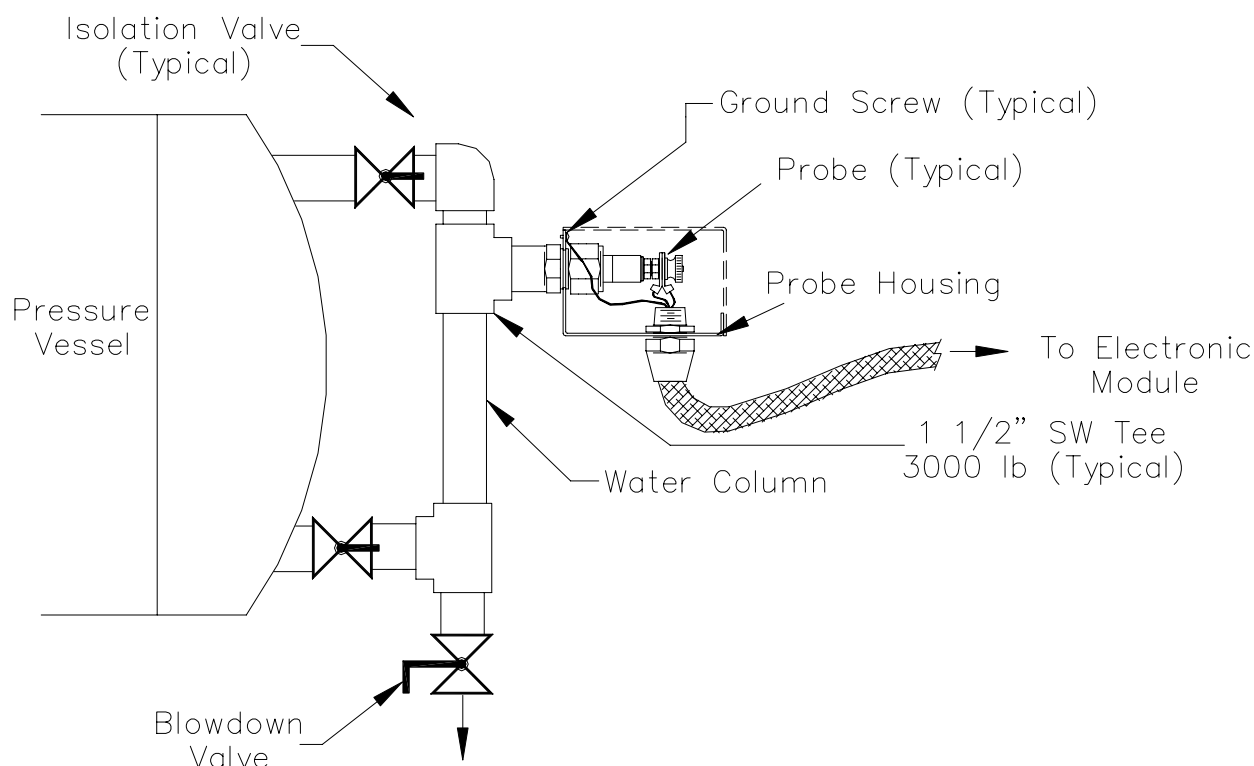

Figure 2 - Typical 1-1/2" Tee Probe Connector
- Figure 2 - Typical 1-1/2" Tee Probe Connector